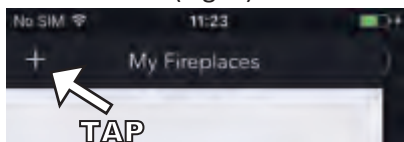
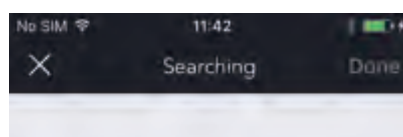

Fig. 2 Tap the "+" button (Top left)
Fig. 3 Searching Fireplace
4. Press "Add" (Fig. 2) button and start searching (Fig. 3) the Fireplace nearby